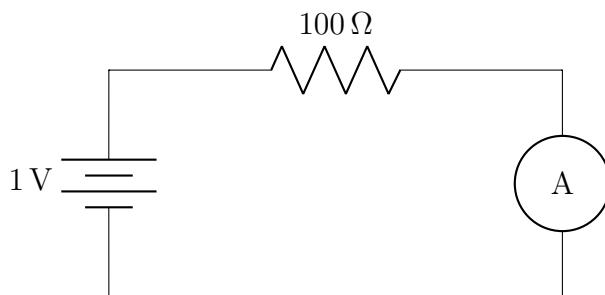

Figure 3: Circuit used to measure the internal resistance R_M of the ammeter
To determine the resistance of the DC ammeter, set up a circuit as shown in Figure 3.
3. Assemble the circuit shown in Figure 3. Set the multimeter to the ammeter mode for DC current measurement. Recall that you need to place the test leads in the correct banana jacks on the front panel and to press the proper sequence of softkeys (Hint: you may have to use `Shift`).
6. Determine the value of R_M from Equation (4).